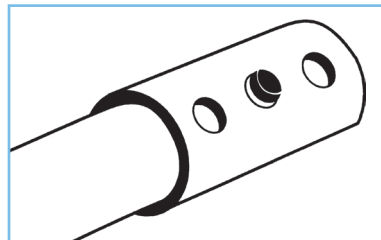

figure 2
1. Before use, adjust height of each leg to your specific needs, making sure all legs are at the same height. When desired height is reached, lock legs into place by aligning buttons into proper holes, per figure 2.